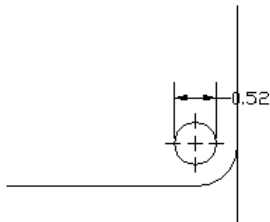

Figure 15-15: A narrow dimension using the Text option.
- ♦ **Text:** If there isn't enough room for the text and the arrows between the extension lines, the text goes outside and the arrows go between them. Figure 15-15 shows a dimension using this option.